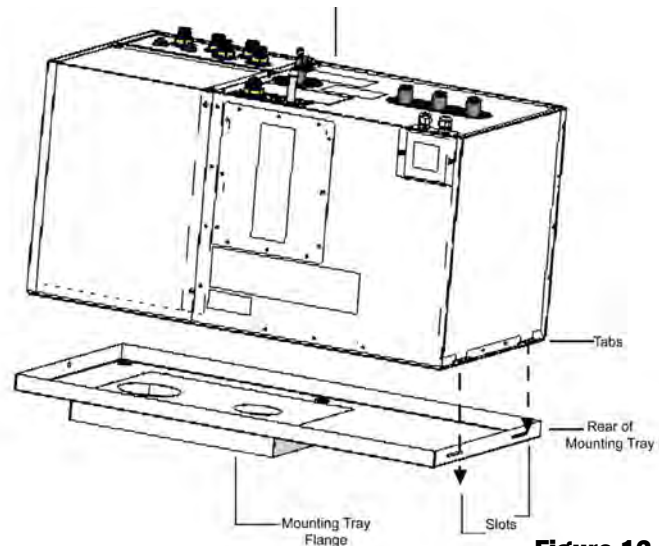

Figure 12
6. Place the Aqua-Hot securely into the mounting tray to ensure that the unit does not move or shift under normal operating conditions. Reference Figure 12.